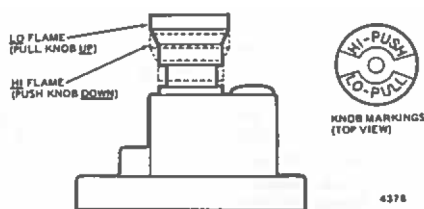

Fig. 7. HI and LO settings, V5308 pressure regulator.
The HI or LO flame setting is selected by positioning the white knob (Fig. 7) on the regulator. The burner will operate in the low fire position when knob is upward; it will operate in the high fire position when knob is downward.
1. Adjust to LO setting by pulling knob (Fig. 7) upward to its outermost position.
2. Adjust to HI setting by pushing the knob (Fig. 7) downward toward the regulator body.